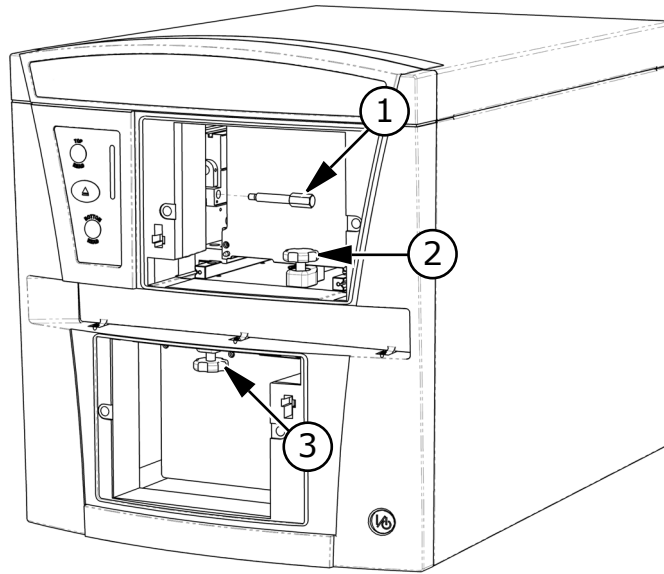

Figure 1-5 Removing PMT Shutter Transport Lock
3. Turn the PMT shutter transport lock counter-clockwise until it comes loose and then remove it from the instrument (Figure 1-5). Store the transport lock in the instrument accessories toolbox.